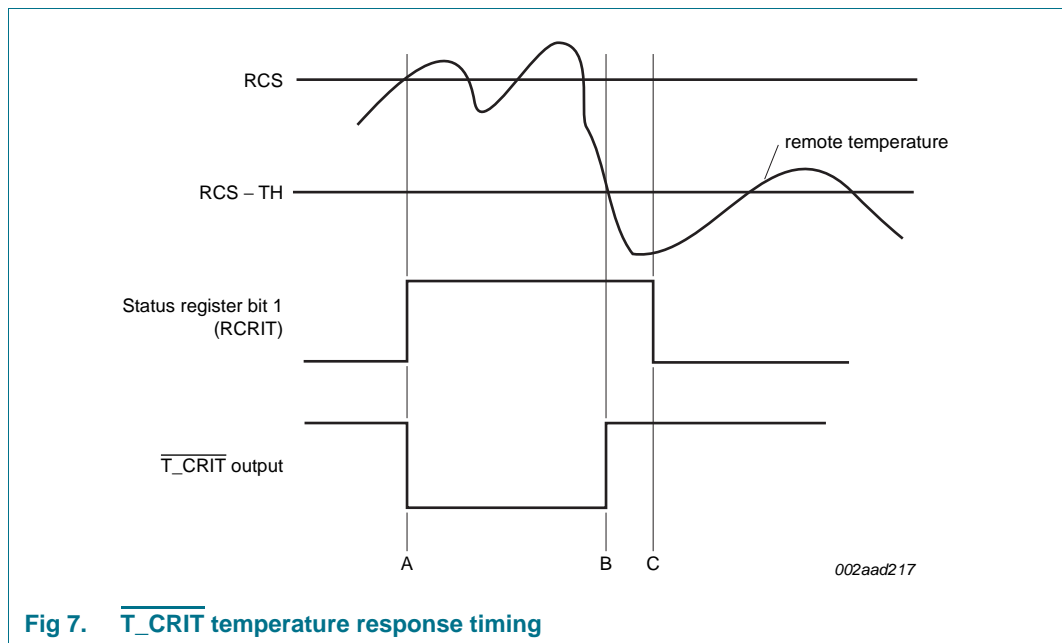

Fig 7. T_CRIT temperature response timing
After every local and remote temperature conversion the status register flags and the $\overline{T_CRIT}$ output are updated. Figure 7 is a timing diagram showing the relationship of $\overline{T_CRIT}$ output, Status bit 1 (RCRIT) and the remote critical temperature setpoint (RCS), and critical temperature hysteresis (TH) with remote temperature changes. Note that the $\overline{T_CRIT}$ output is de-activated only after the remote temperature is below the remote temperature setpoint, RCS minus the hysteresis, TH. In the interrupt mode only, the Status register flags are reset after the Status register is read.